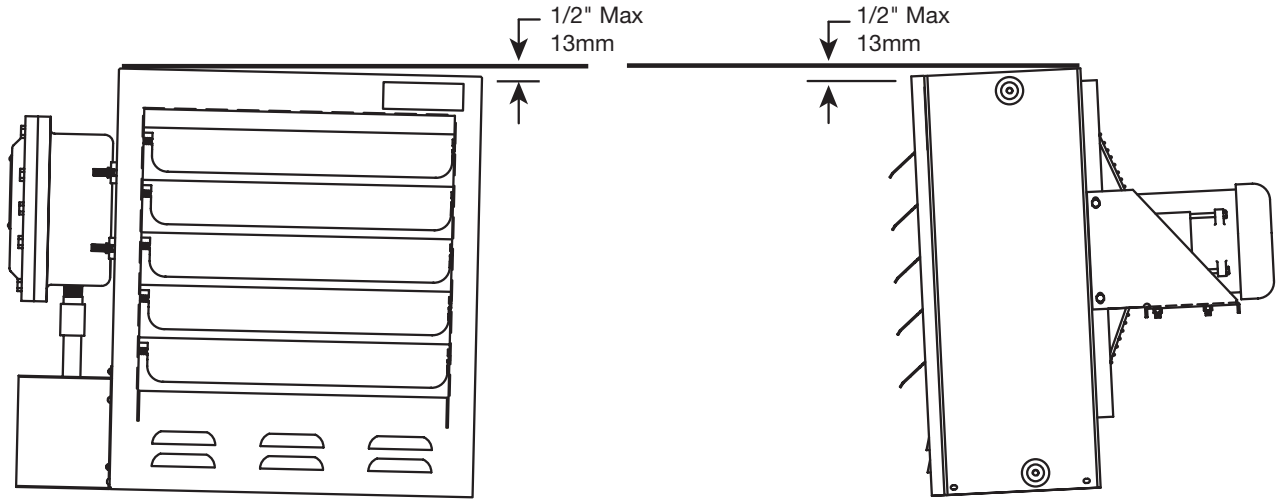

Figure 3
6. Install and operate in upright position only. Refer to Figure 3 for level requirements. Failure to comply will cause
If using mounting hardware or a supporting structure not supplied by Chromalox, the unit should be suspended from the supporting structure thru the two mounting points on top of the unit with 5/8 NC bolts and lockwashers. If single point mounting is desired, order the correct size Chromalox adapter bracket (P/N 027-302361-001 for 12" fan units, P/N 027-302361-002 for 16" fan units) and P/N 027-302361-003 for 20" fan units. This bracket is designed to hold the unit over its center of gravity with a 1 dia. bolt. The maximum tilt angles as shown in Figure 3 must not be exceeded in either direction during operation and installation. Failure to comply will cause high limit shut down.